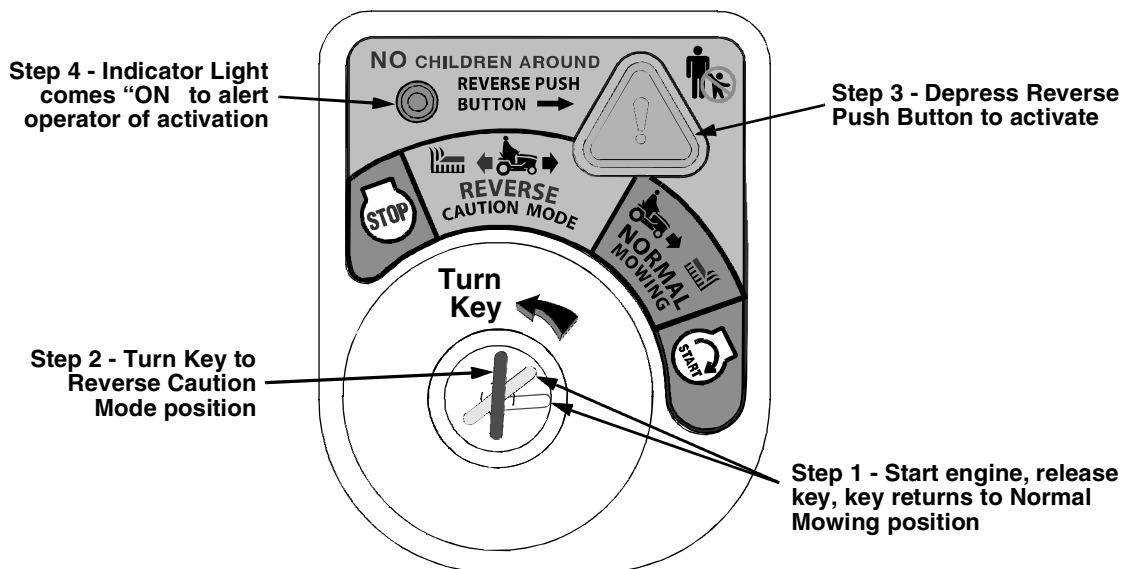

Figure 4-3
MODE (Yellow) position of the key switch module. Refer to Figure 4-3.
3. Depress the “REVERSE PUSH BUTTON (Orange/Triangular Button)” at the top/right corner of the key switch module. The red indicator light at the top/left corner of the key switch module will be “ON” while activated. Refer to Figure 4-3.